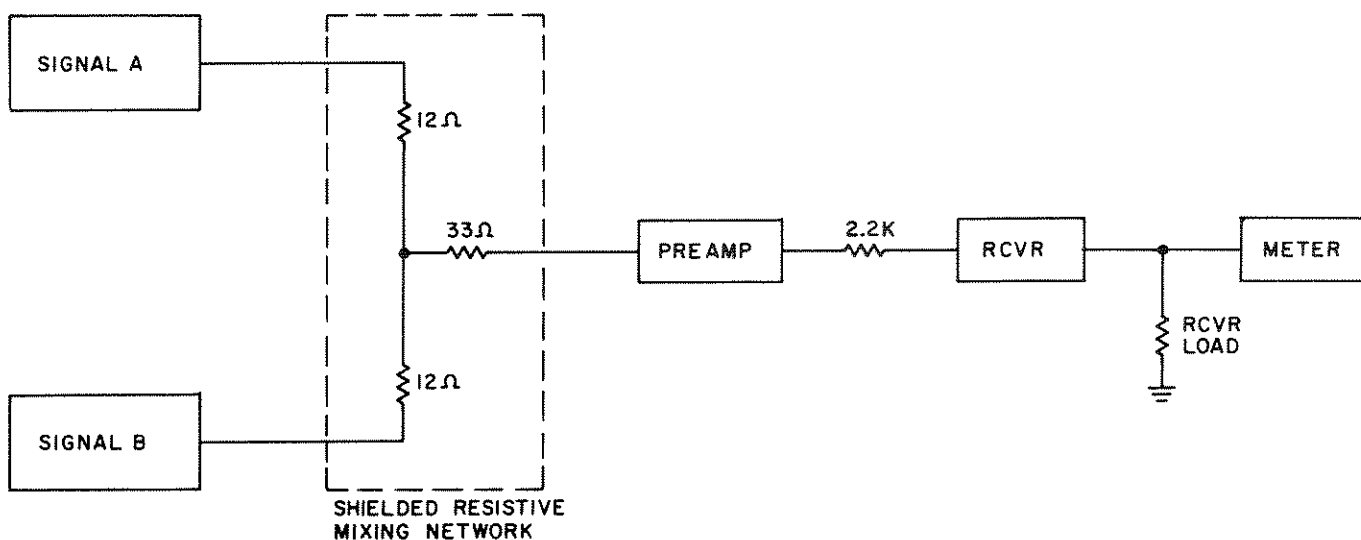

Figure 6-1. Block Diagram, Preamplifier Alignment Setup
(1) Arrange a test setup as shown in figure 6-1. Connect the 2.2-K ohms 1/2 watt resistor in series with the input of the receiver and pin 3 of transformer T202 (available at J202).
(2) Inject 2 signals (A) 250, 000-uv at 1.1-mc and (B) 250, 000-uv, 30% modulated 400-cps at 0.5-mc to J201, through the shielded resistive network shown.
(3) Tune receiver to 1.6-mc. Adjust balance control potentiometer R201 for maximum output (minimum cross-modulation).
(4) Lock R201.